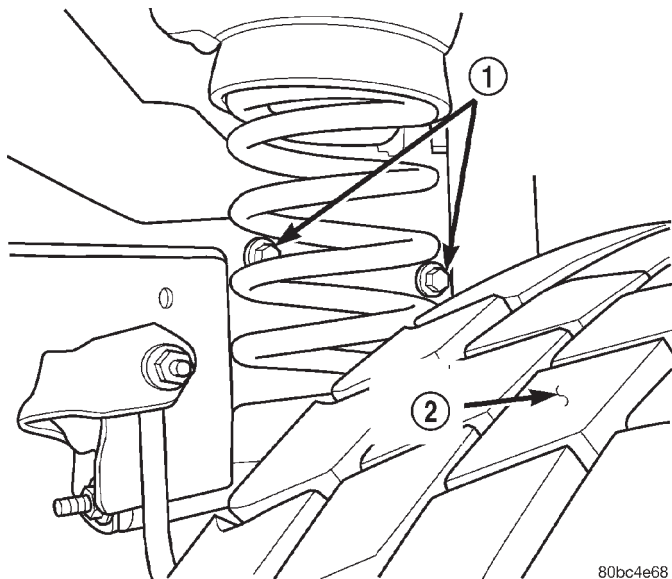

Fig. 25 Engine Mount Sill Plate Bolts - Left Wheel Well
(13) Install the engine mount sill plate retaining bolts in the left wheel well (Fig. 25). Torque the bolts to 61 N·m (45 ft. lbs.).
(14) Torque all engine mount sill plate bolts to 61 N·m (45 ft. lbs.).